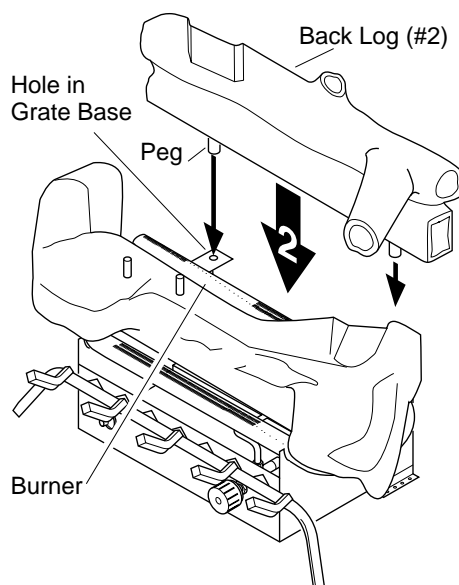

Figure 24 - Installing Back Log (#2)
2. Locate pegs on the bottom of back log (#2). Slide these pegs into the holes in the grate base behind the burner (see Figure 24).